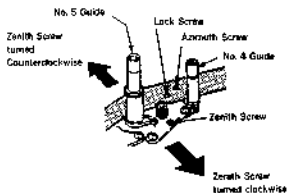

Fig. 1
- (i) Turn the No. 4 and No. 5 Guides counterclockwise to free the tape path at the exit side. (Fig. 1)
After adjustment, tighten the lock screw clockwise.(fig. 1)